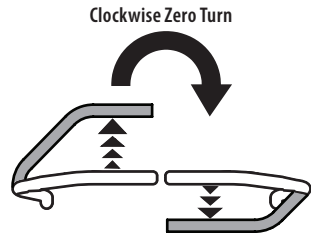

Fig. 27
2. To turn clockwise, move the left lapbar drive control lever forward while simultaneously moving the right lapbar drive control lever rearward (Fig. 27).